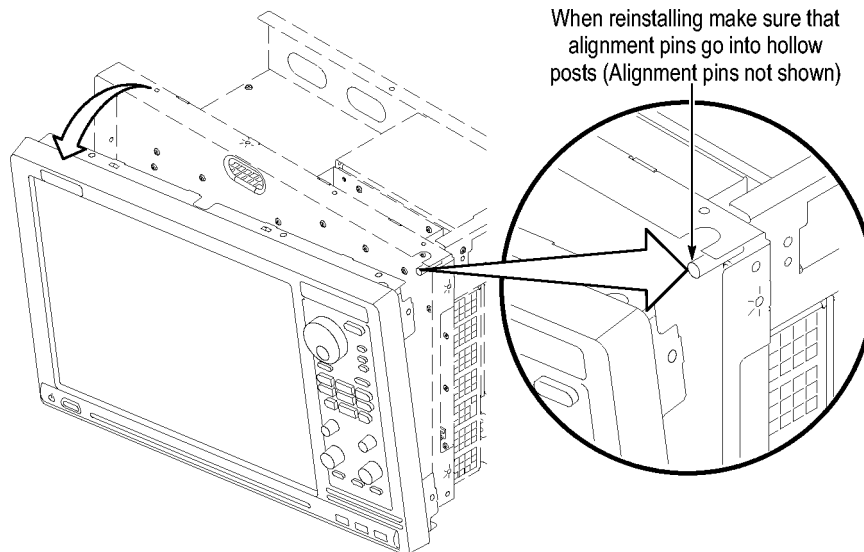

Figure 4: Tilt the front panel forward for cable access
10. Tilt the top of the front panel out about 8 inches. (See Figure 4.)